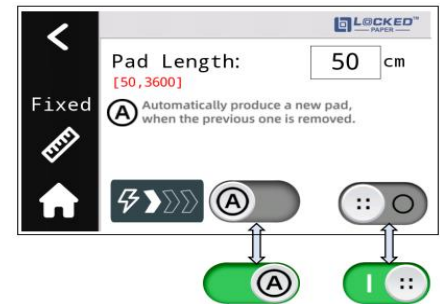

Figure 2
1) Tap  in the homepage to enter this mode. (Figure 2).